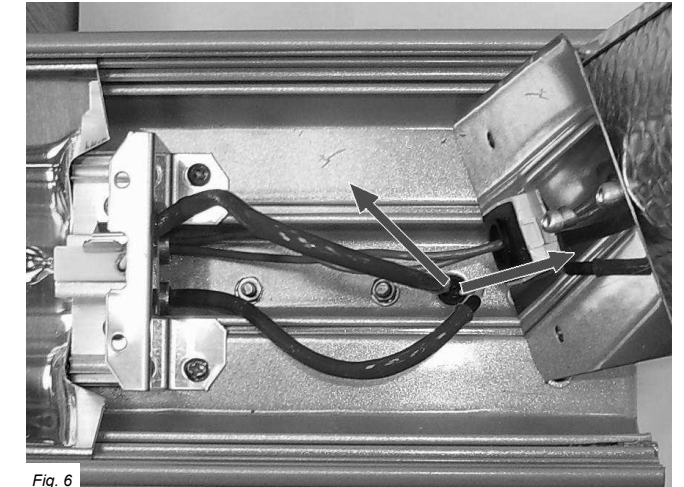

Fig. 6
8. Starting at the end where the emitter wires are fed through the gasket into the terminal box, if the heater has lights hold the bulb plate out of the way (Fig. 6) or if it is a heater only the wires will be clearly visible, gently pull the lamp wires through the body of the heater so the wires exit the terminal box (Fig 6).